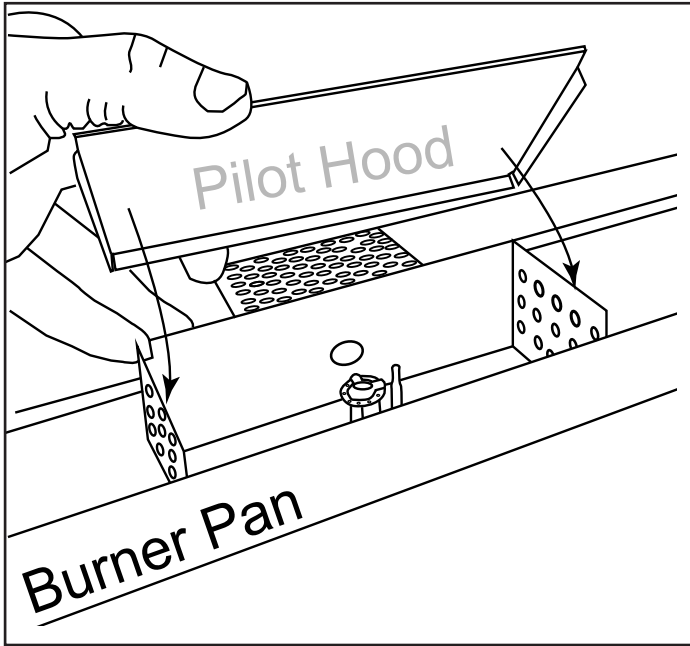

Fig. 26 Proper pilot flame through ignition hole.
Remove the plastic film from the pilot hood and place it on top of the pilot box as shown in Figs. 26 & 27..
**IMPORTANT:** Media can only be placed in the trough and burner pan area. No media is to be placed into the shaded area shown in Fig. 26 on page 23.